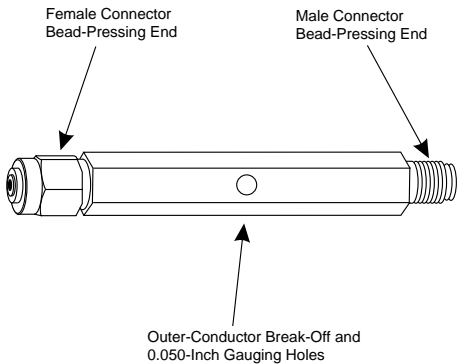

Figure 2. Multipurpose Tool
- a. Connect the male-connector bead-pressing end of the multipurpose tool (Figure 2) to the coupling nut on the K101 M connector.